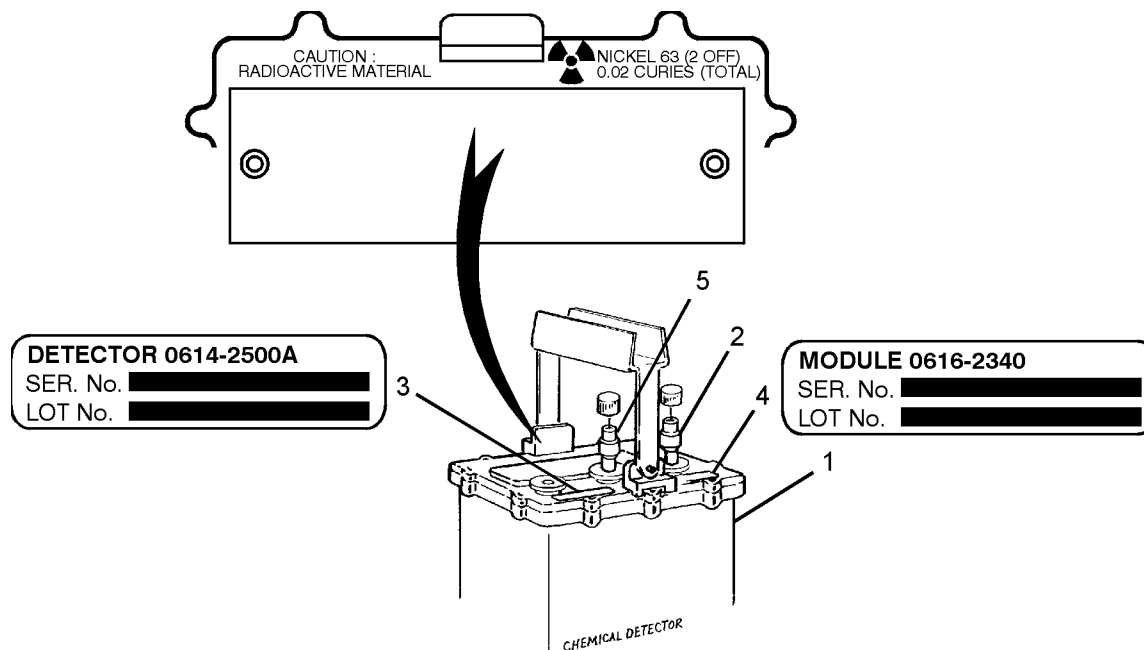

Figure 4-2.
Two identical, nominal 10 millicurie (mCi) (370 Mbq), foil Nickel-63 radioactive sources, totaling a nominal 20 mCi (740 Mbq) per detector as indicated by radioactive material label located on the top of the detector (figure 4-2).
4.15.1.4. **Source code.** Detector serial number and lot number (Figure 4-2, Item 3).
4.15.1.5. **Serial Number of Source.** Module serial number and lot number (Figure 4-2, Item 4).
4.15.2.5 Holding the wipe test cloth on the opposite side of the "x," wipe the exterior top surface of M88 (Figure 4-2, Item 1) and around inlet (Figure 4-2, Item 5) and outlet nozzles (Figure 4-2, Item 2).